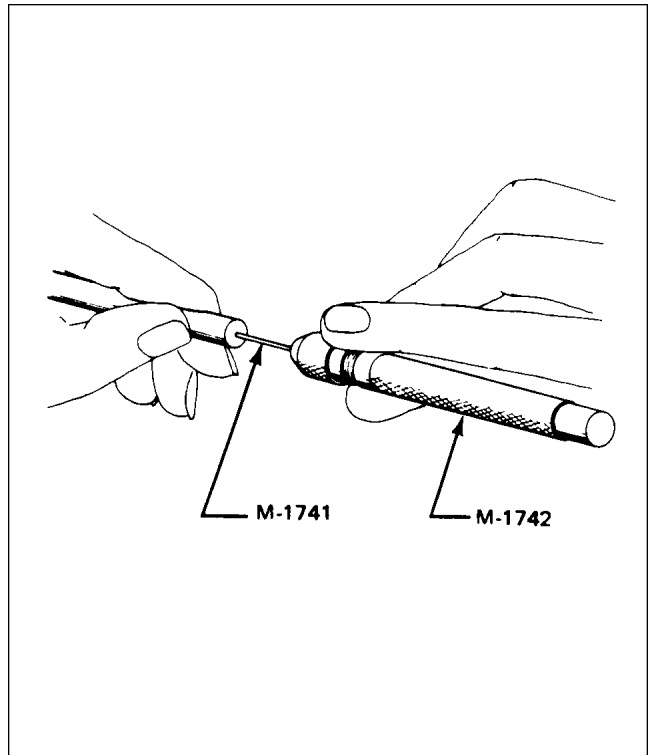

Figure 74-18. Removing Silicone Rubber from Wire
- f. Using M-1742 pin vise, insert M-1741 drill (72 drill), drill out silicone rubber from inside coiled conductor approximately 0.375 inch deep. Refer to Figure 74-18.